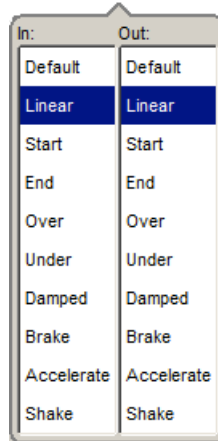

Figure 20.9. Selecting a Path in an Editor
4. Choose a path from the displayed list; see *Figure 20.9, "Selecting a Path in an Editor"*.